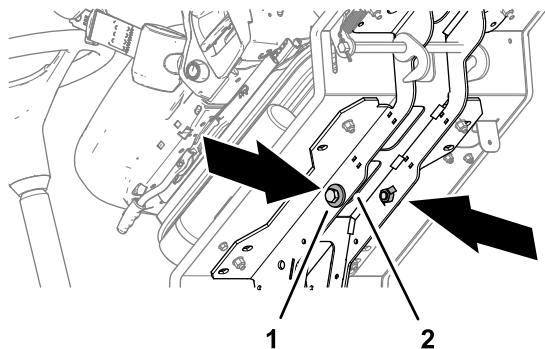

Figure 42
4. Remove the 2 bolts (12 x 40 mm) and 2 washers (12 mm) stored in the platform support rails (Figure 42).